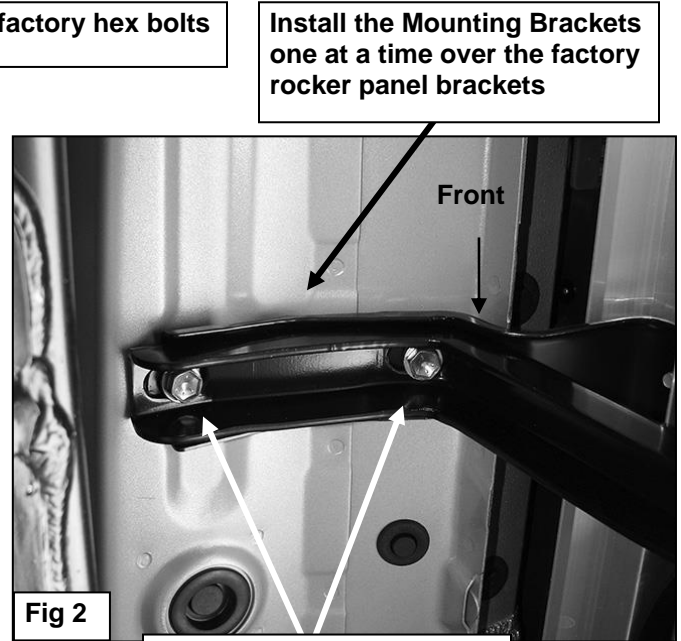

Fig 2
- Starting on the passenger side of the vehicle, remove the existing (2) factory bolts located by the front tire opening securing the factory rocker panel bracket to the vehicle, **(Figure 1)**. Select (1) Front Mounting Bracket. Hold the Front Bracket over the rocker panel bracket and line up the (2) mounting holes. Secure the brackets to the vehicle using the included longer (2) 8mm x 30mm Hex Bolts, (2) 8mm Lock Washers and (2) 8mm Flat Washers, **(Figures 2 & 3)**. Do not tighten hardware at this time.